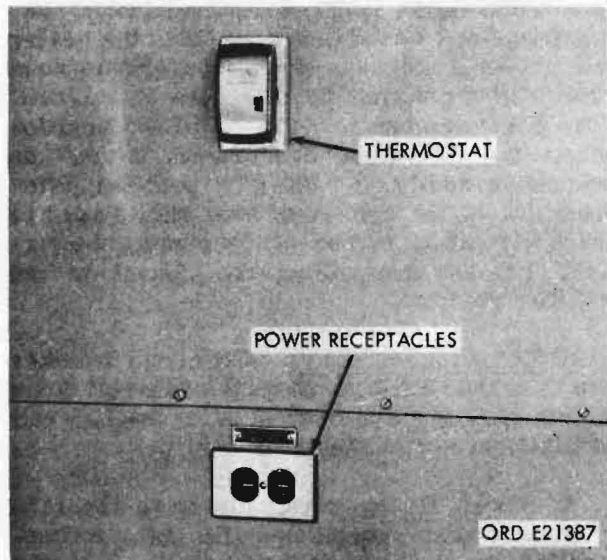
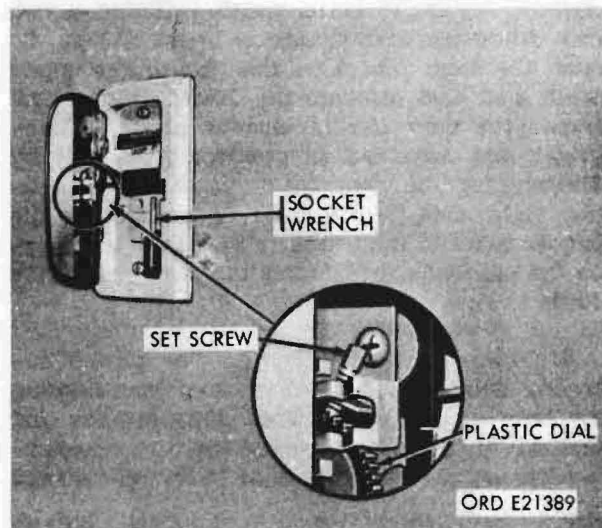

Figure 141. Power receptacles and heater thermostat - left wall
Figure 143. Heater thermostat adjustment
d. Power Receptacles. Power to the 115-volt ac power receptacles (fig. 141) is controlled by the circuit breaker No. 1 in the multibreaker assembly (fig. 90).
h. Heater Thermostat. The heater thermostat (fig. 141) controls heat output from the van body space heater. The amount of heat supplied is controlled by setting the plastic dial under the thermostat front cover to the temperature desired. The dial may be locked at any given setting. To lock the dial, open the front cover and remove the socket wrench provided with the thermostat. With the wrench, turn the hex-head setscrew down until the dial is stationary (fig. 143).